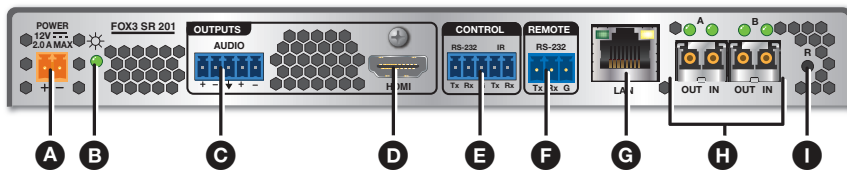

Figure 1. FOX3 SR 201 Rear Panel
- a. Connect an HDMI display to the HDMI output (see figure 1, **D**).
Connect the included external 12 VDC power supply into the 2-pole connector (see figure 1, A on page 1). The power LED lights (B) when the unit is receiving power.
Press the rear panel recessed reset button (see figure 1, **I** on page 1) if the FOX3 scaling receiver firmware is corrupted or the unit gets disconnected during the update process. The different resets allow the device to revert to the factory loaded firmware, reset IP settings, or reset configuration to default (see the Reset Modes table, for details on the reset modes).
The OSD menu consists of two submenus, Device Info and Setup, that can be accessed using the front panel **Menu** button. View the menu on a display connected to the HDMI output connector (see figure 1, D on page 2). The Device Info submenu is view only. The following fields can be configured from the Setup submenu: